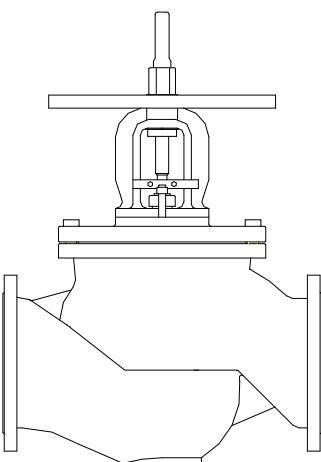

Fig. 2
- Position of the plug at DN 200 - 400 is shown on the longitudinal scale. Fig. 2.